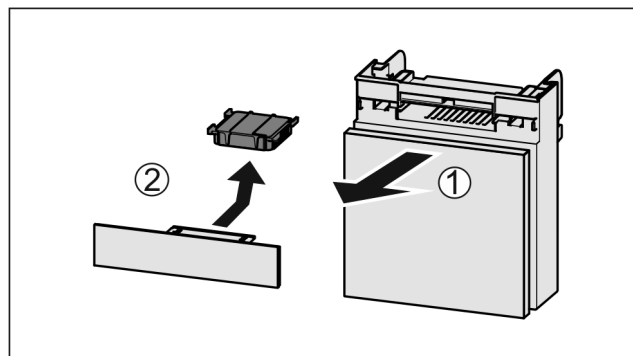

Fig. 138
- Pull out the compartment Fig. 138 (1).
- Remove the carbon filter Fig. 138 (2).